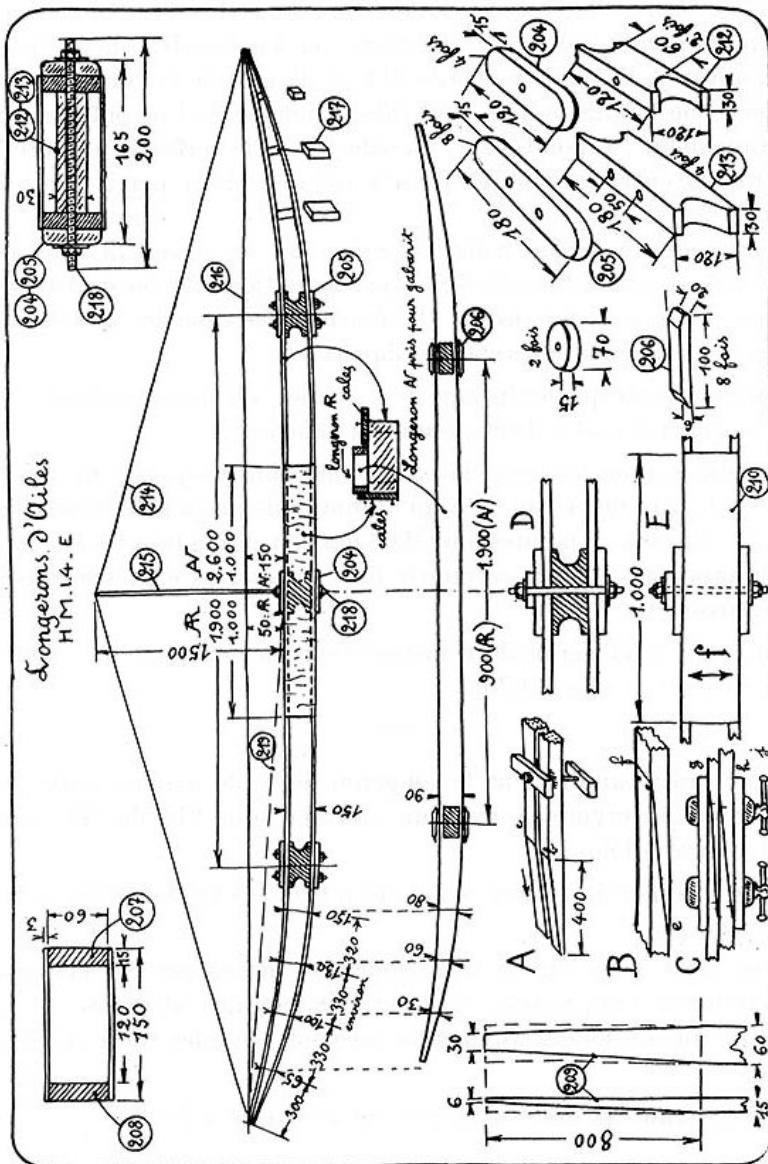

Figure 4.2: The spars
The spar (fig. 4.2) consists of two 15×60 caps (207), (208), curved to meet at the tips and held in shape by two vertical-grain plywood webs (210). The spar is 150mm deep.
Glue and tighten by their threaded rods the plates 205, 206 (*fig. 4.2*). These plates are level with the ribs above and below the wing. Glued parallel to the inner blocks 213, these reinforce the spar caps, which are pierced through here by the threaded rods. The wood of these plates must be excellent quality with perfectly straight grain.